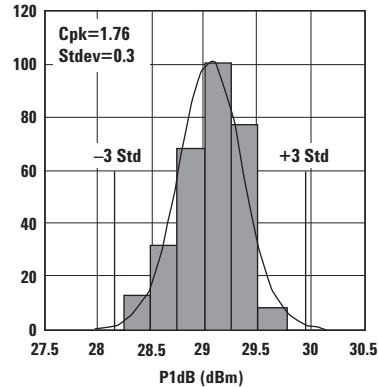

Figure 2. P1dB.
- Measurements at 2 GHz obtained using production test board described in Figure 2 while measurement at 0.9GHz obtained from load pull tuner.